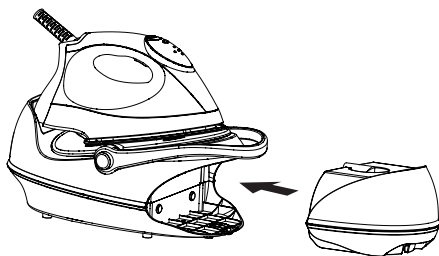

Fig.5
5. Replace the water tank into the base unit again. It will be locked in place with the base unit until a "click" sound is provided. (Water tank decoration indicator light will light up to indicate that water tank and filter have been installed in place if power ON) Fig.5